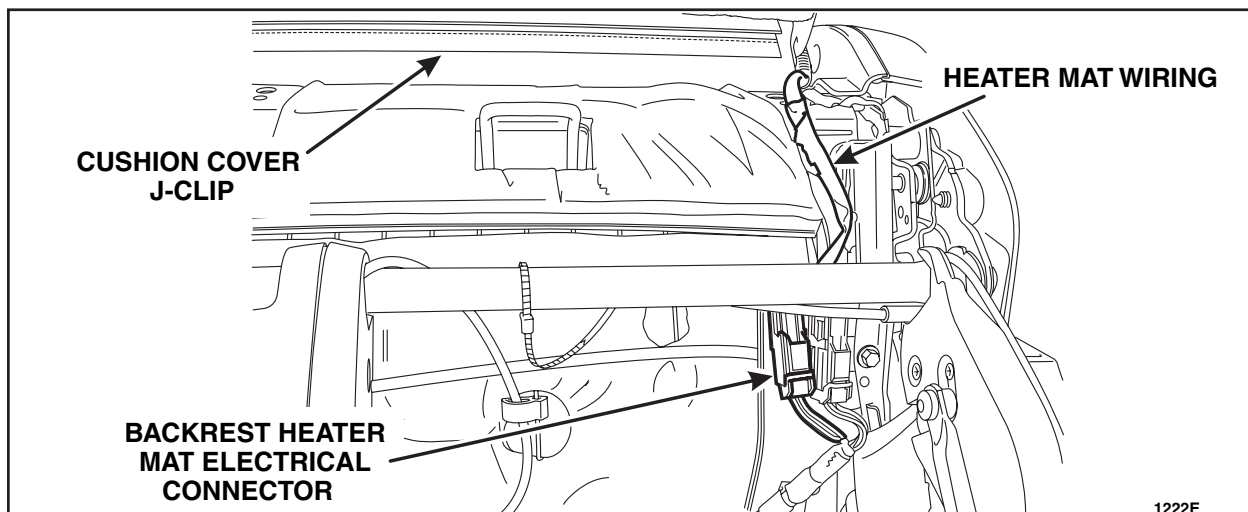

FIGURE 5
11. If equipped, disconnect the backrest heater mat electrical connector. See Figure 5.
23. If equipped, connect the backrest heater mat electrical connector. See Figure 5, on Page 3.